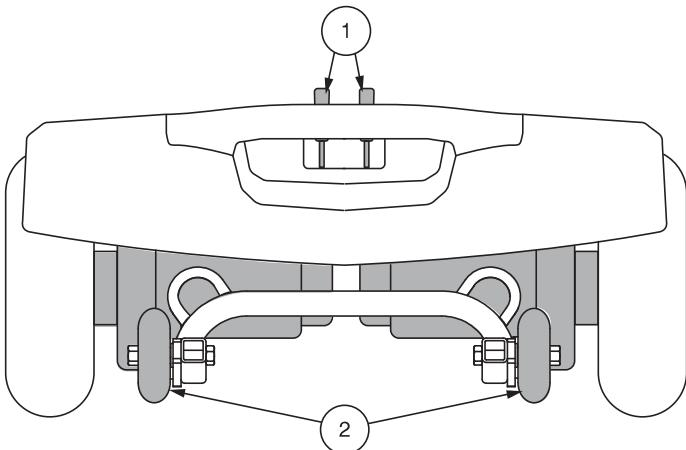

Figure 8. Rear Components - Jazzy ZTS
For your convenience, your travel scooter has a manual freewheel lever on each motor. Manual freewheel levers enable you to disable the drive system in order to maneuver the Travel Scooter manually. See figure 8.
1. Locate the levers on the rear section of the scooter. See **figure 8**.